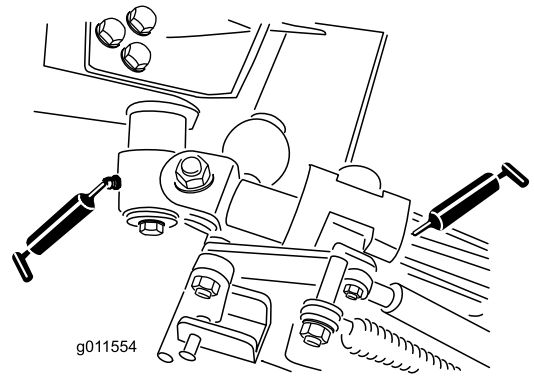

Figure 87
- 2 bell-crank-pivot bushings (Figure 87)
- 4 rear arm bushings (Figure 87)